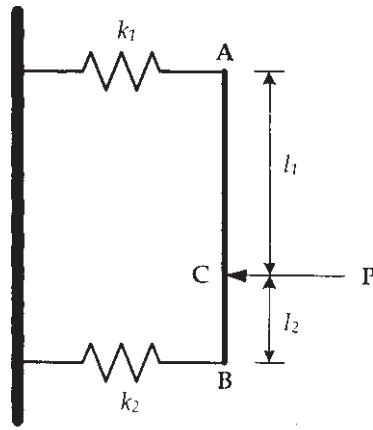

Fig. 3.b
- b) For the mathematical model shown in Fig. 3 b, determine the equivalent stiffness at C. [6]